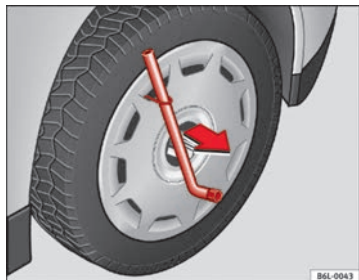

Fig. 144 Remove the complete hub cap
- Remove the wheel cover using the wire hook ⇒ fig. 144.